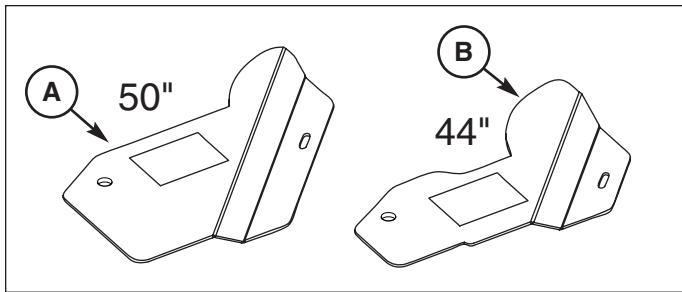

Figure 13. Belt Cover Plates
1. Attach the belt cover plate (B, Figure 13 & 14) to the support bracket (E) using a 5/16-18 x 1 capscrew (C), washer (D) and nylock nut (F).
*NOTE: This cover plate must be able to pivot on the support bracket. Different belt covers are required for different applications. Refer to Figure 13.*